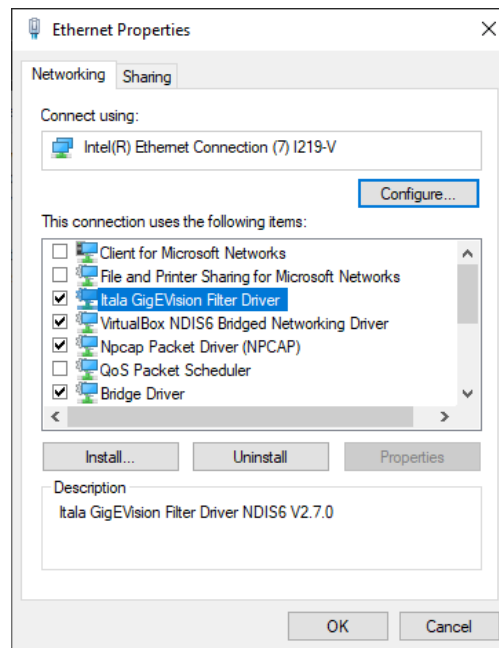

Figure 5: Successfully installed filter driver.
You can check for successful installation of the filter driver on your Ethernet connection property window. Go to *Control Panel > Network and Sharing Center > Change adapter settings*, right-click on your Ethernet connection and select *Properties*. In the *Networking* tab you should see the filter driver entry with a selected checkbox, as shown in Fig.5.
4. At the end of the installation, the filter driver will appear in the NIC property window (Fig.5).